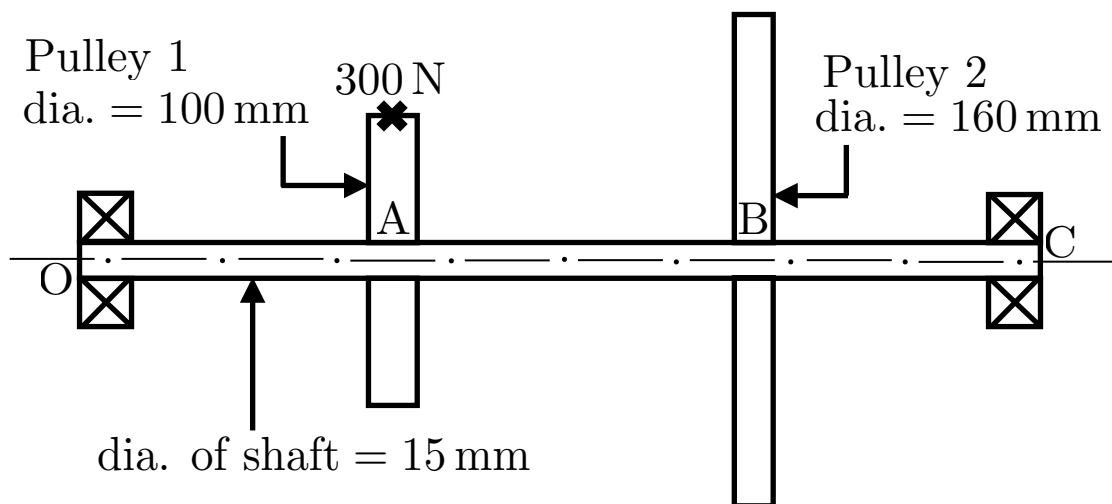

Figure 5: A Rotating Shaft with Two Pulleys
7. Answer the following questions for the rotating shaft shown in Figure 5.